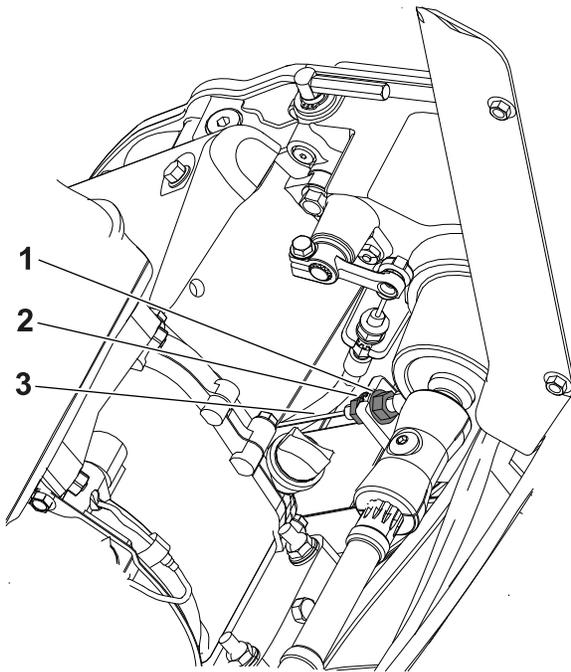

Figure 38
2. Loosen the rear jam nut and tighten the front jam nut (Figure 38).